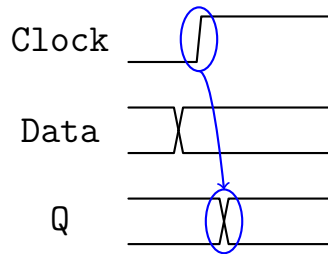

Figure 7.4: Clock to Q delay
3. Zoom in until a delay between the two signals is clear. Add a delay measurement where clock is the reference and Q is the signal. Repeat for a falling edge on Q. Figure 7.4 shows the required measurement.